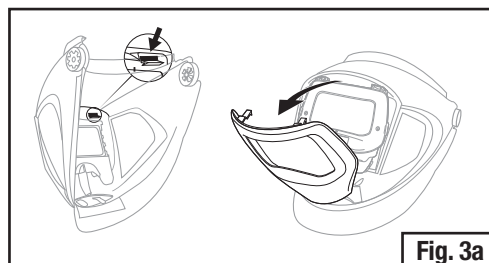

Fig. 3a
- Remove the silver front panel by pressing up on the silver tabs from the inside of the shield to release the latch mechanism, and then push the tab through the openings (area shown in Fig. 3a).